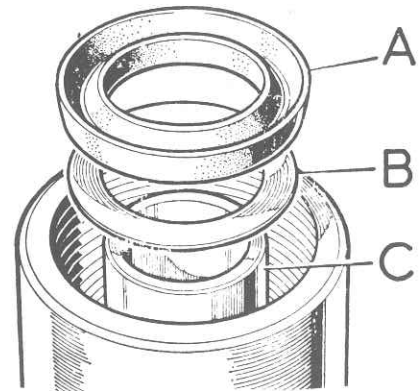

Fig. 9.31. Correct location of recuperating seal
- 9 Fit the washer and seal into the other end of the cylinder making sure that the flat face of the seal faces the piston (see Fig. 9.31).